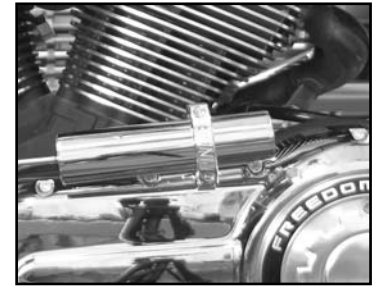

Figure 2
Remove the 2 bolts from the case where the Pingel shift cylinder support bracket will mount, see Figure 2. Using the thread locker supplied, Insert the supplied 6mm x 55mm shcs through each hole in the shift cylinder support bracket then into the case and tighten as shown in figure 2.
Install the shift cylinder onto the shift cylinder support bracket using the Pingel clamp and (2) 1/4-20 x 3/4" shcs, see figure 2. Just snug these bolts for now, as adjustment will be needed next. Note: The next procedure may require two people. Pull and hold the rod end in its most inward position (the Shift cylinder will be fully retracted), install the 1/4-20 x 1" shcs temporarily through the rod end on the shift cylinder and into the shift arm bracket, then pull the shift lever to the full up shift position. Now tighten the two bolts of the Pingel clamp. Note: You may need to roll the motorcycle back and forth to be certain that it is fully in gear. Remove 1/4-20 x 1" shcs (rod end bolt) until the next step.